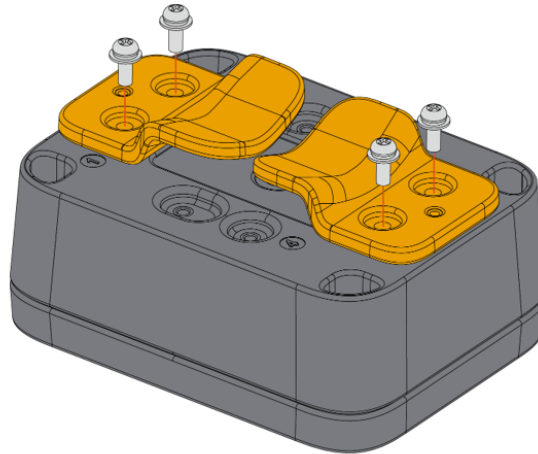

Figure 14: Fixing the pole mount on the enclosure
- Fix the pole mounts marked with the letter **A** on the WisBlock Unify Enclosure using four (4) pieces of M3*8 mm Head screw with washer. Place it on fixed positions number **1 and 3** of the enclosure, as shown in **Figure 14**.